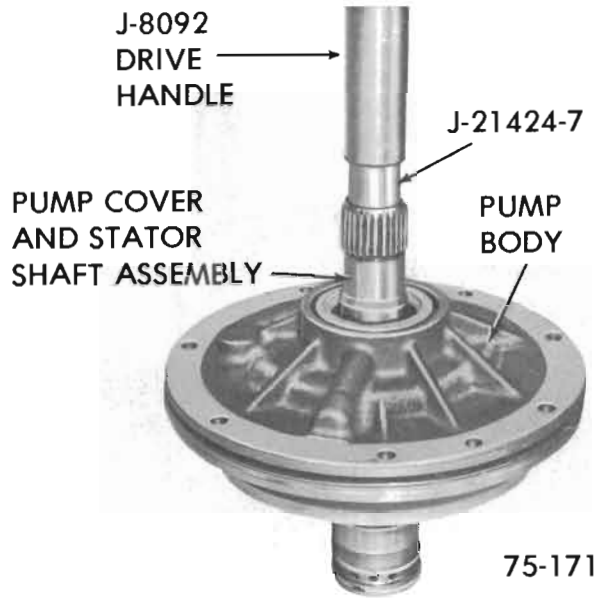

Figure 75-145
13. Install front stator shaft bushing as follows: Support pump assembly on J-21424-7 before installing bushing. Install bushing into the front end of stator shaft. Install bushing into the front end of stator shaft. Using Installer J-21424-7 and Drive Handle J-8092 tap bushing into shaft to 1/4 inch below top of stator shaft. See Figure 75-145.